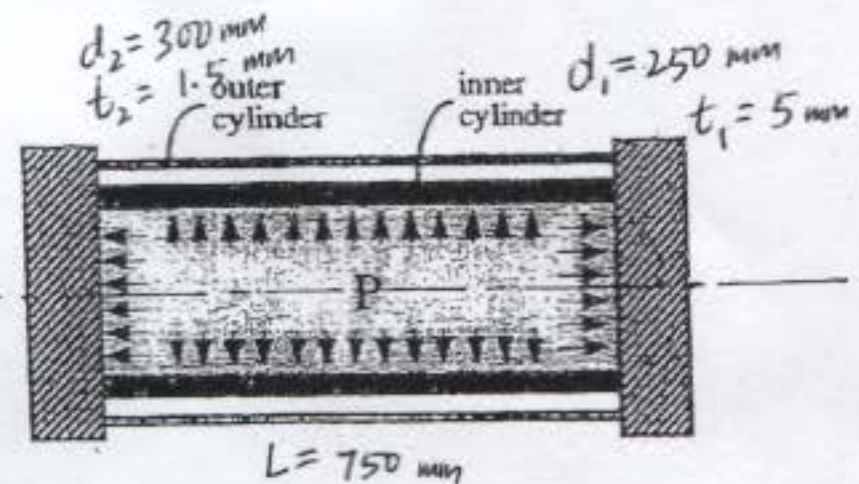

Figure Q3
3. Figure Q3 shows two concentric cylinders of length 0.75 m which are attached to thick, rigid end plates, used for transport of a pressurized, hazardous fluid in the inner cylinder. The outer cylinder, made of an aluminium alloy, is a safety feature which also provides some mechanical protection; it has an internal diameter of 300 mm and wall thickness of 1.5 mm. The inner cylinder is made of stainless steel; it has an inner diameter of 250 mm and wall thickness of 5 mm. The two cylinders are stress-free before the inner cylinder is filled with the fluid up to a pressure of 3.5 MPa.